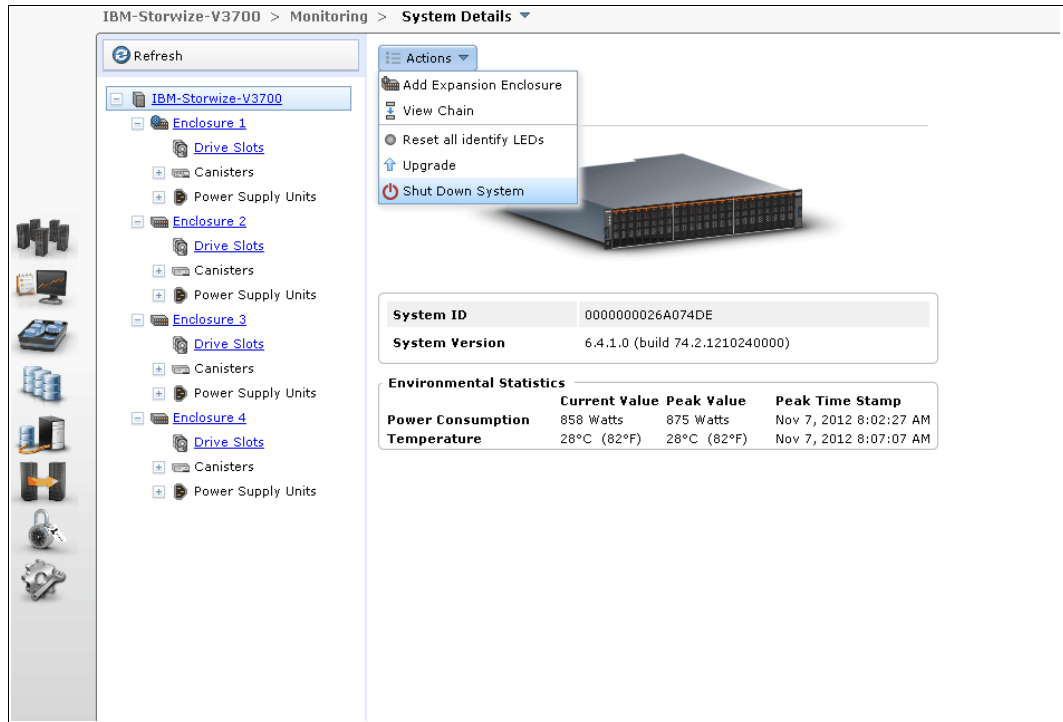

Figure 2-21 Add Expansion Enclosure
2. Select the option to add a new expansion enclosure from the Actions menu. This wizard guides you through detecting and configuring the new enclosures as shown in Figure 2-21 on page 47.